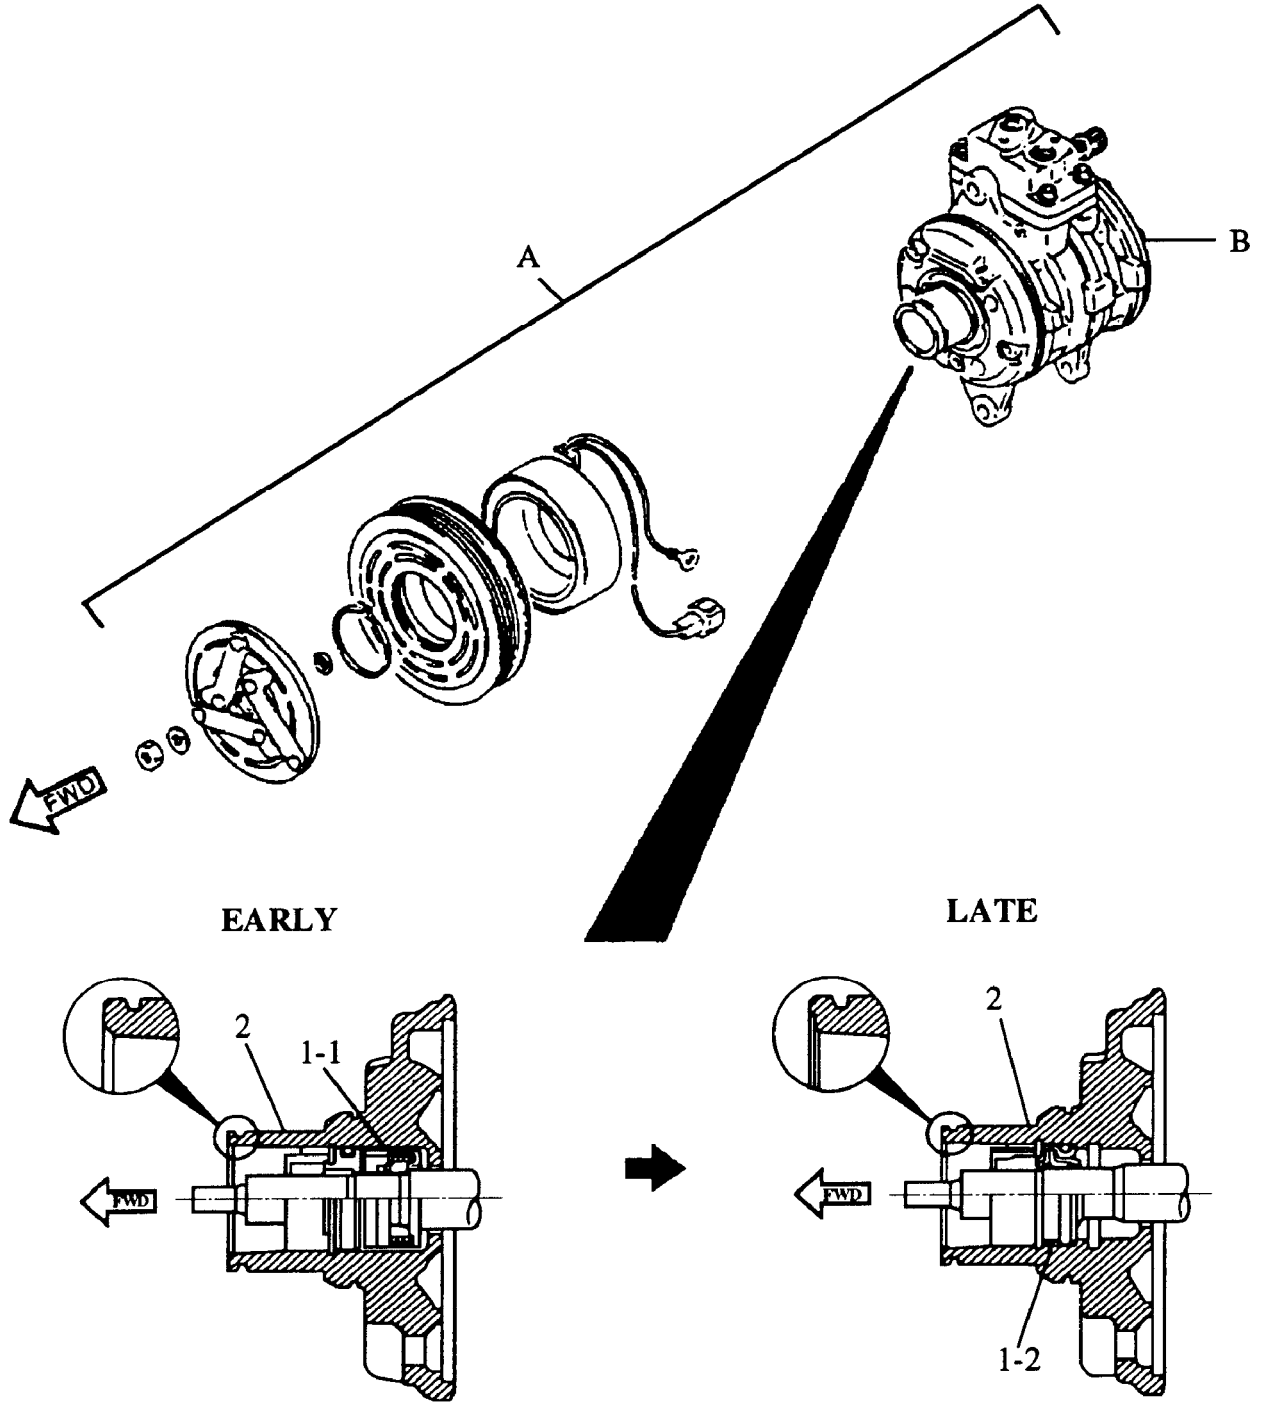

Fig. 2: Modified Compressor & Magnetic Clutch
- A. Compressor and magnet clutch (see Fig. 2)
Clean all parts with cleaning solvent and apply compressor oil to them. See Fig. 2.